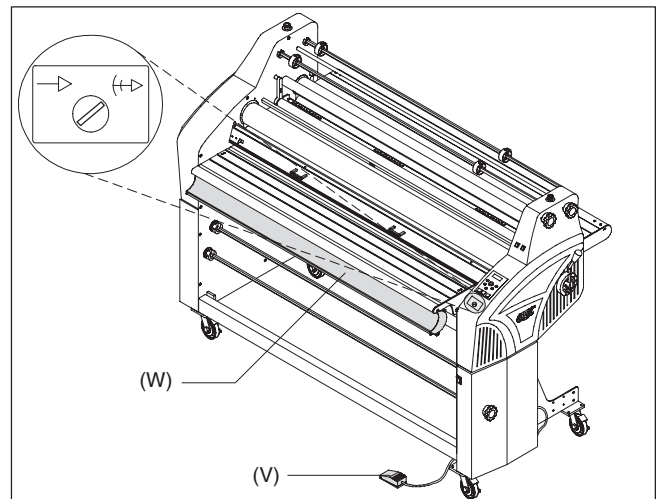

Fig 21
W. PRINT UNWIND BASKET: (Figure 21) Holds a rolled image. Prevents the image from touching the floor.